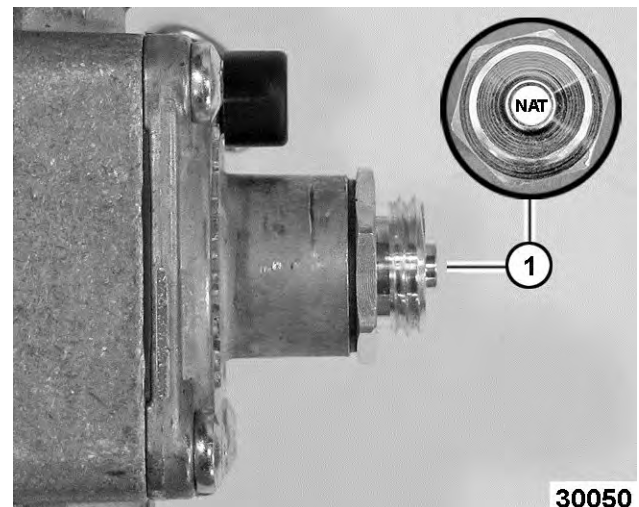

Fig. 69
- If the incoming pressure to the valve is between 6" WC and 14" for Natural gas and the manifold pressure is not maintaining 5" WC, and the cap (1, Fig. 69) is correctly positioned, replace the valve.
1, Fig. 69	Cap position for natural gas (stamped NAT).